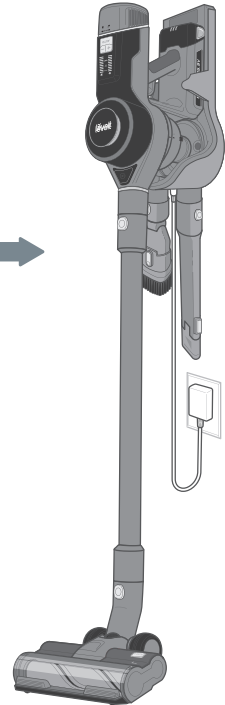

Figure 2.7
3. Hang the vacuum on the charging dock [Figure 2.7]. The battery indicator lights will blink while charging.